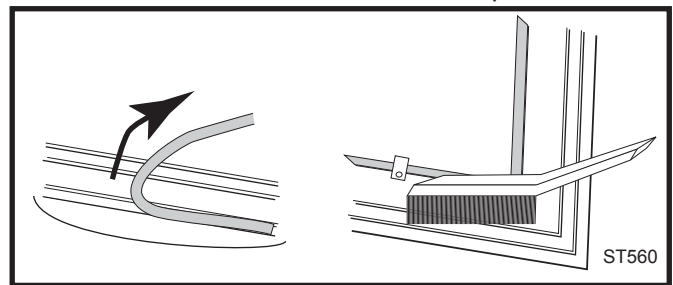

Fig. 23 Remove gasket, then clean channel with wire brush.
1. Remove the existing gasket by grasping an end and pulling firmly. (Fig. 23)